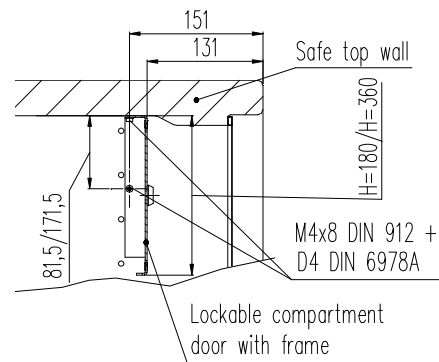

Figure 1
- 1.1 Place the door with frame inside the safe as shown in Figure 1.